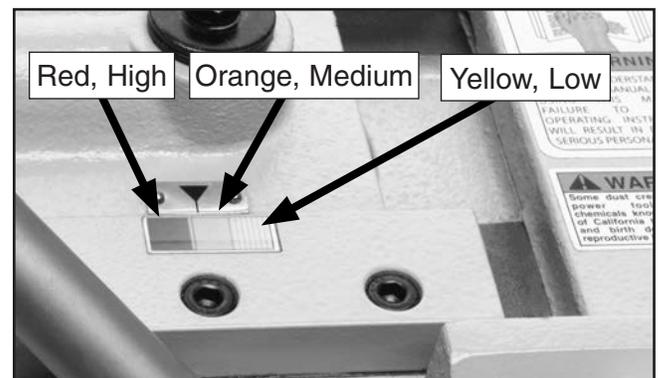

Figure 38. Blade tension scale.
- Using the graduated scale on the blade tension indicator (**Figure 38**) turn the blade tension handwheel so the tension is in the orange range when using the saw. When the saw is not being used, adjust the tension to the yellow range.